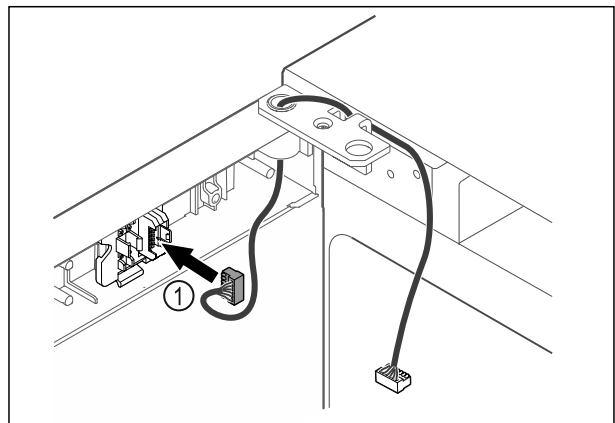

Fig. 49
- Put the plug Fig. 49 (1) in the plug holder.